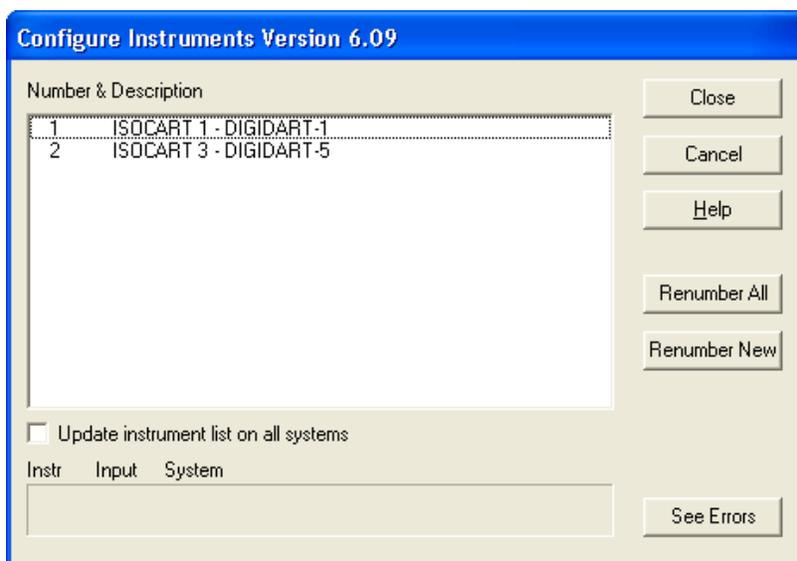

Figure 264. Record Number & Description Strings for Each MCB.
- If you are storing QA data in the `GVQA32.mdb` file and wish to continue using this database, record the **MCB Number & Description** information (Fig. 264) for each detector in your system so you can rename them properly after the following uninstall/install operations.²³ Remember that spelling, spacing, and uppercase/lowercase must be considered when recreating the **Description** text string. (Consequently, both v4.x and v3.1 QA results will be stored in the same QA database file.)